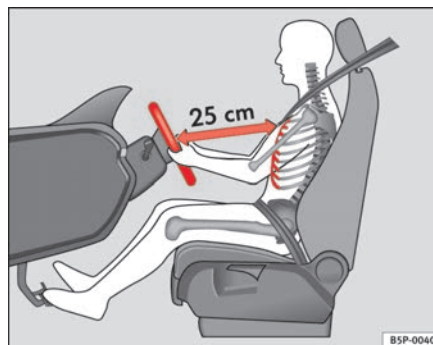

Fig. 134 Proper sitting position for driver
- Adjust the steering wheel in this way until the correct position is set ⇒ fig. 134.
- Adjust the driver seat or steering wheel so that there is a distance of at least 25 cm between the steering wheel and your chest → page 165, fig. 134. If you fail to observe the minimum distance, the airbag will not protect you. Risk of fatal injury.